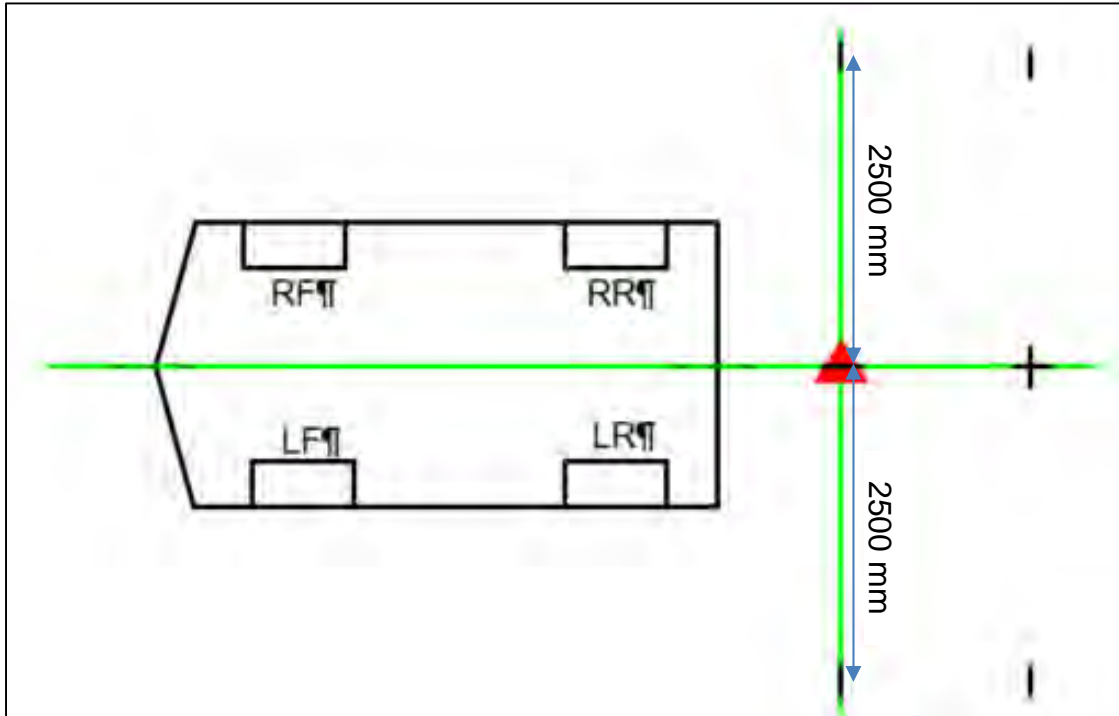
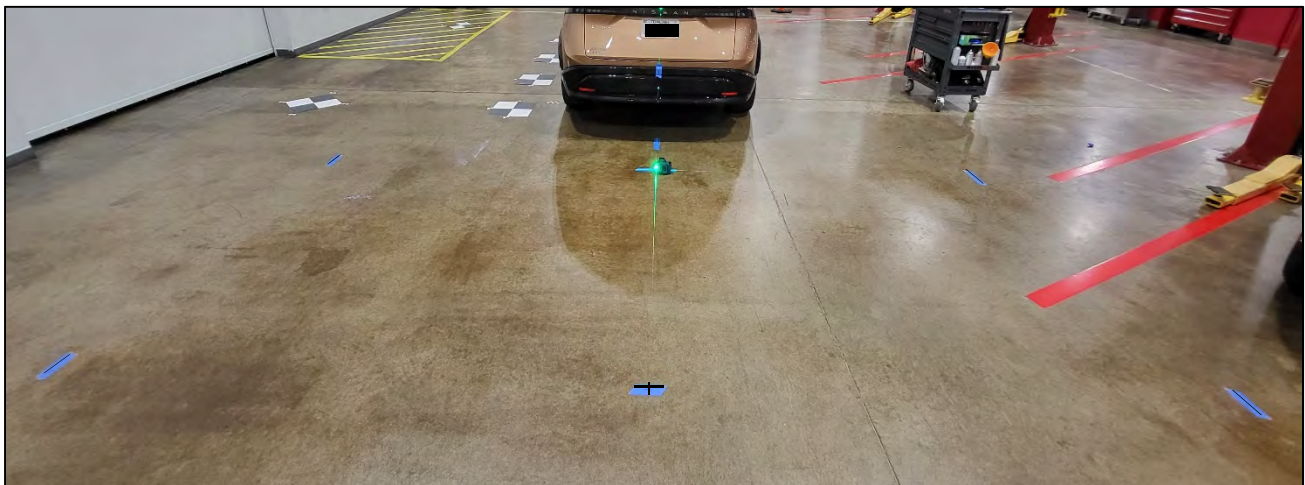

Figure 78
Figure 79
54. Move the laser to the 500 mm mark, and then measure and place a mark 2500 mm to the left and to the right of the laser level, as shown in Figure 78 and Figure 79.